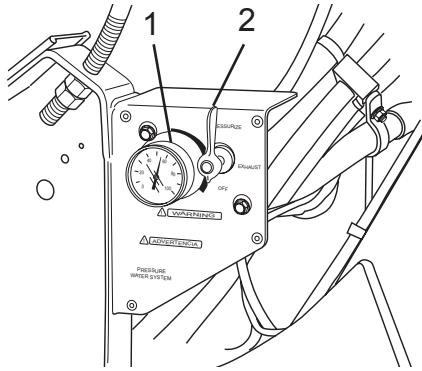

Figure 98
2. Turn air pressure control valve to the PRESSURIZE position (Figure 98, Item 1). The water tank will be pressurized from the chassis air system. The air gauge (Figure 98, Item 2) will indicate the pressure in the water tank. The pressure must not exceed 55 psi (380 kPa).